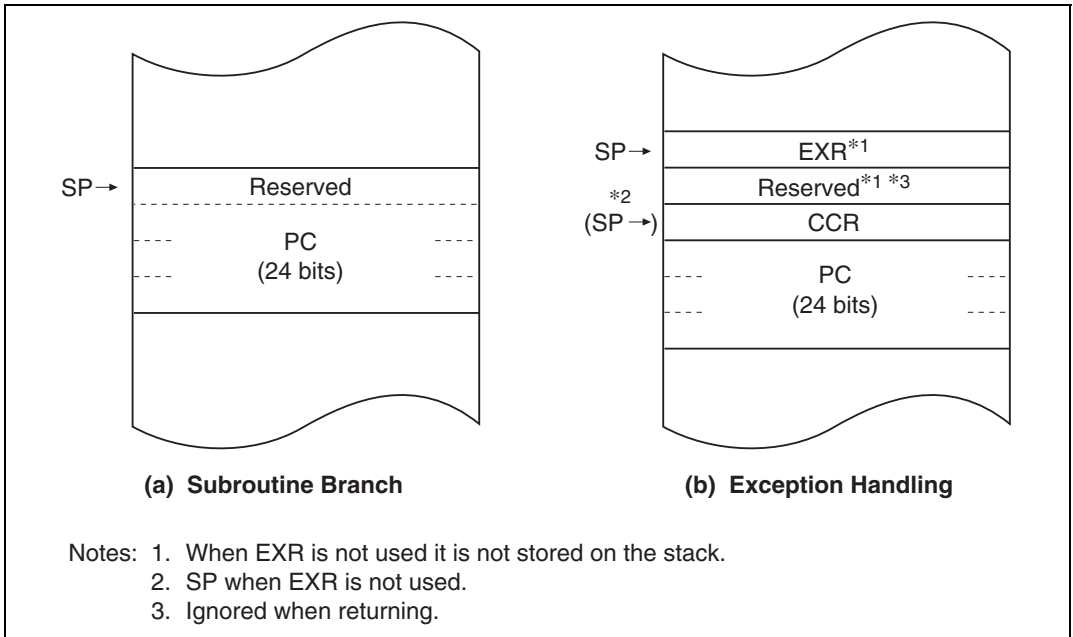

Figure 2.5 Stack Structure in Advanced Mode
In advanced mode, when the program counter (PC) is pushed onto the stack in a subroutine call, and the PC, condition-code register (CCR), and extended control register (EXR) are pushed onto the stack in exception handling, they are stored as shown in figure 2.5. When EXR is invalid, it is not pushed onto the stack. For details, see section 4, Exception Handling.